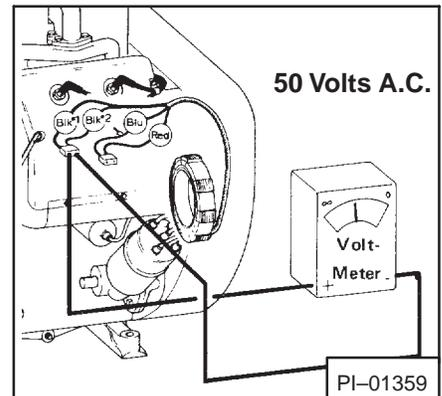

Fig. 1-42 Stator Check #1
**NOTE:** The voltmeter readings can be different from the ones shown in Figures 1-42 thru 1-46. Use the reading given only as a guide.